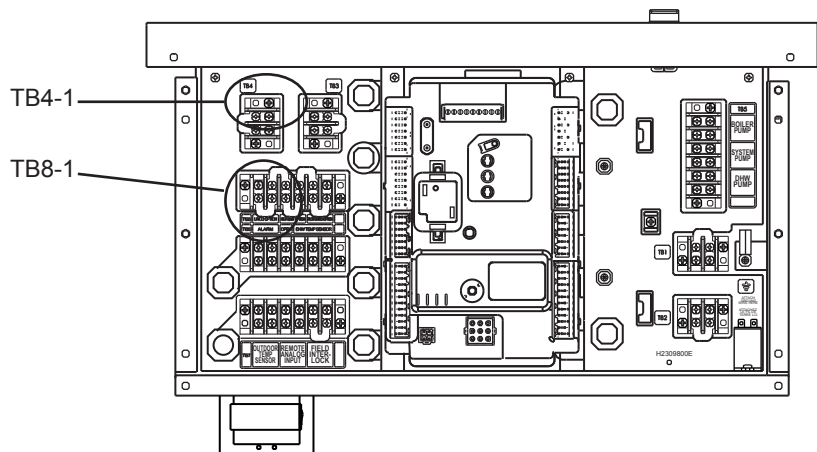

Fig. B1-5 - Check for 24V AC at TB8-1
- Connect a volt-meter between TB4-1 and TB8-1. See Fig. B1-5. If 24V AC is present here, this means that the safety interlocks are connected (or jumpered out), and the switches are closed, allowing the unit to fire when a “call for heat” arrives. If you see 24V AC here, this means that the following safety interlock switches are OK: